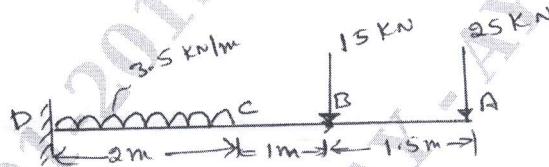

Fig. Q5
- 5 Draw the shear force and bending moment diagram for a Cantilever beam shown in Fig. Q5. (16 Marks)